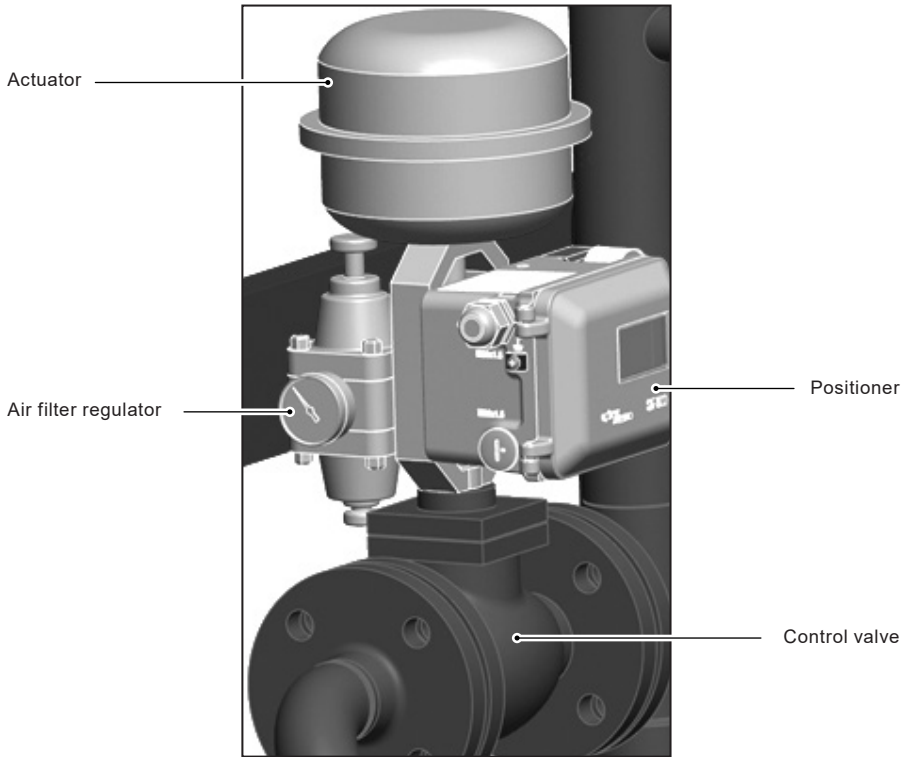

Fig. 25
5.4.13 Pneumatic (modulating) control valve - Figure 25